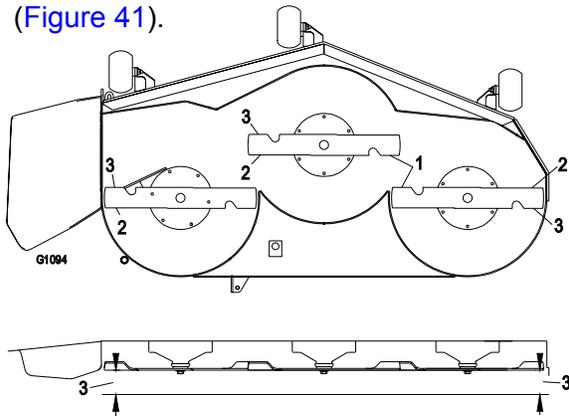

Figure 41
- Carefully rotate the blades side to side (Figure 41).
5. Measure between the outside cutting edges and the flat surface (Figure 41). If both measurements are not within 3/16 inch (5mm), an adjustment is required; continue with this procedure.
9. Carefully rotate the blades side to side (Figure 41).